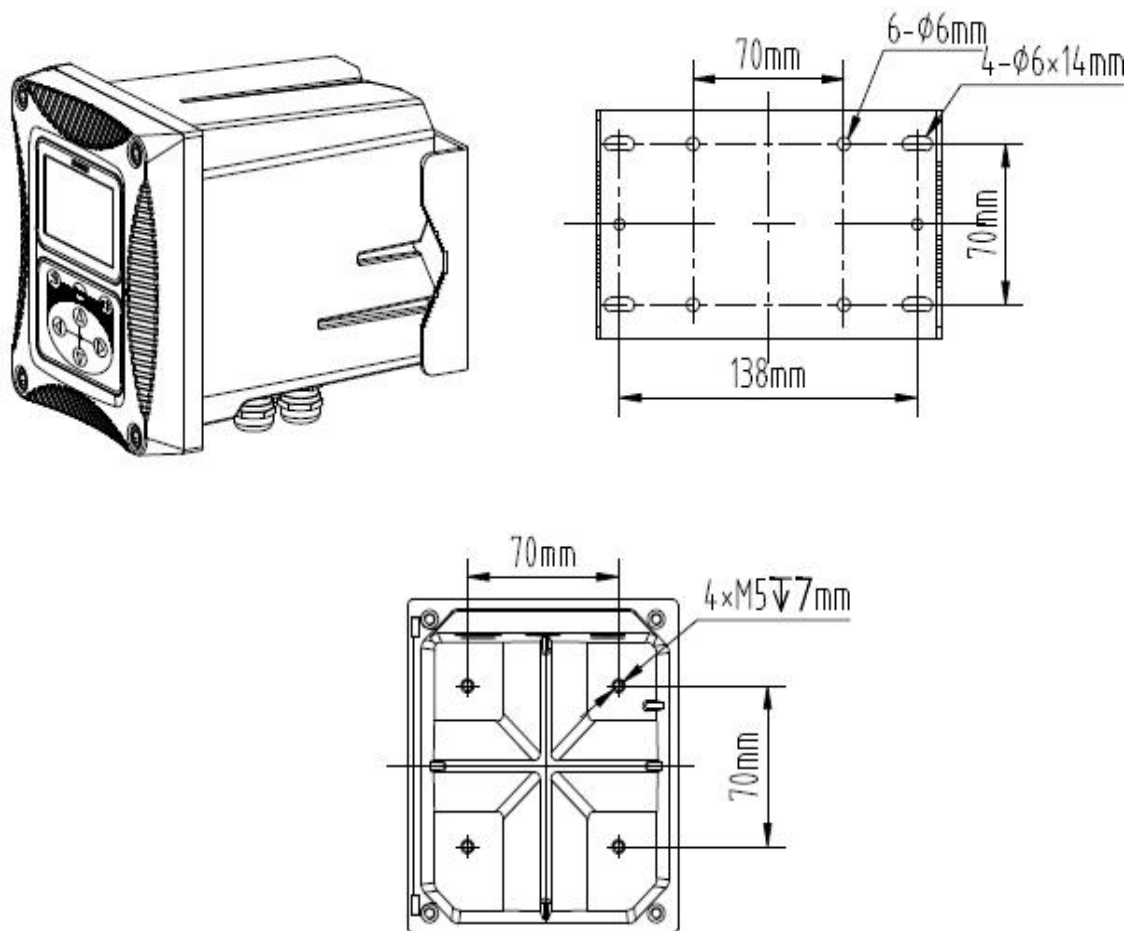

Figure 4 Installation Size
② Figure 4 shows the transmitter installation size.